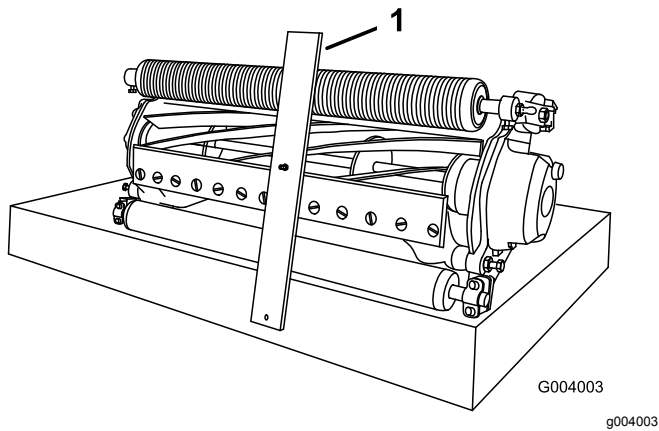

Figure 19
2. Hook the bolt head of the height-of-cut gauge onto the right side of the cutting edge of the bedknife and rest the rear end of the bar onto the rear of the roller (Figure 19).